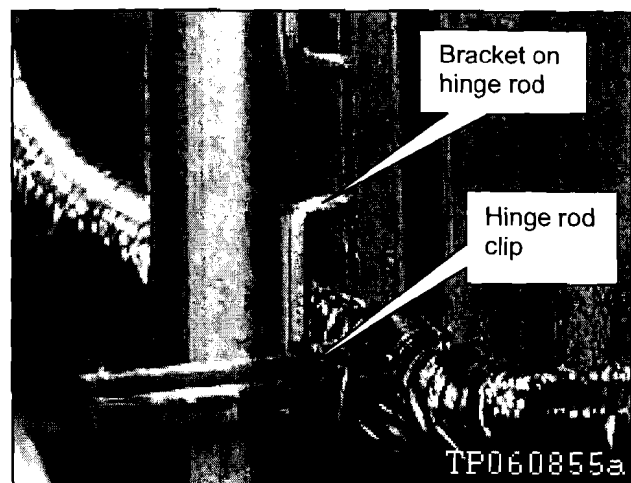

Figure B9
15. Attach the new hinge rod clip below the bracket as shown in Figure B9.